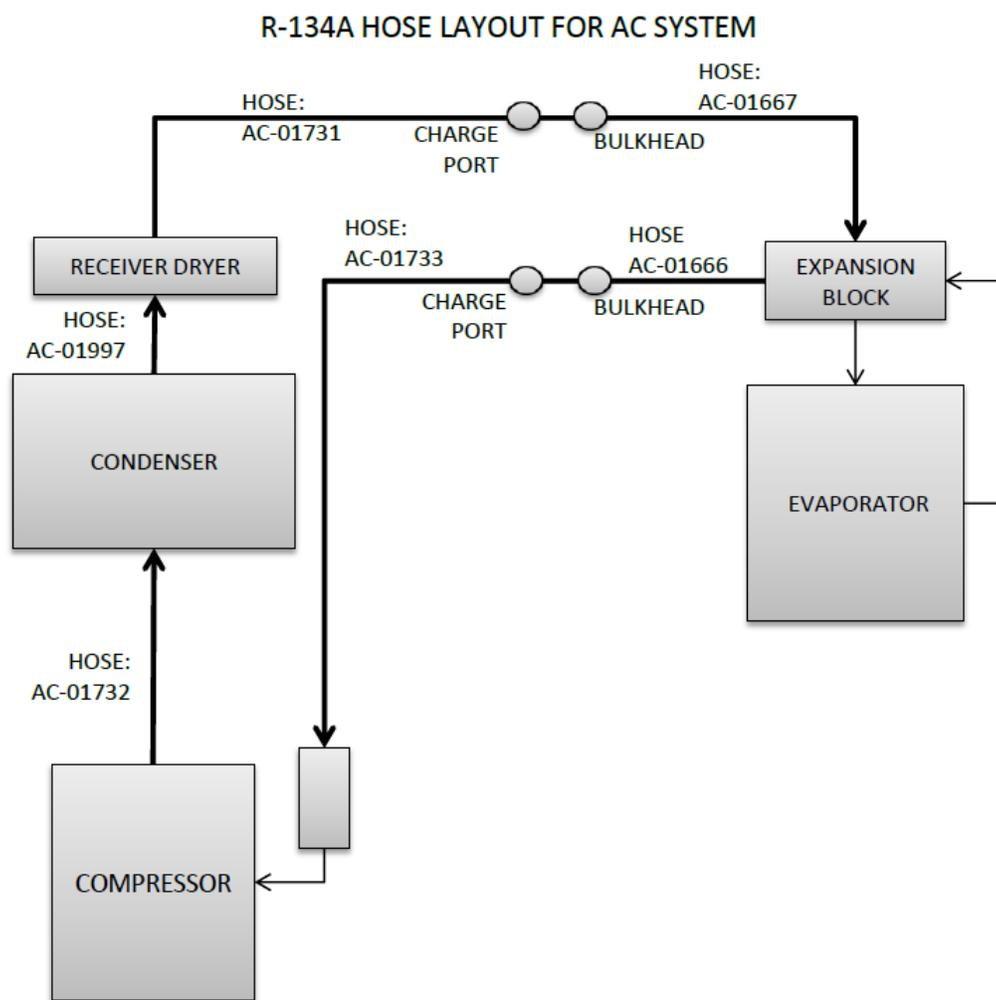

Figure 44 – Hose Layout
- B. Connect condenser, evaporator, and compressor hoses per Figure 44 below: